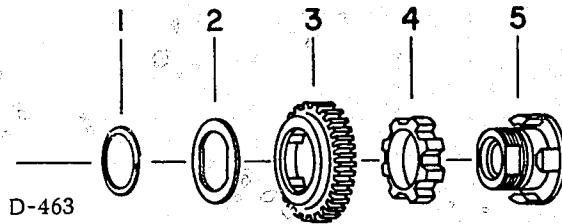

FIGURE 4
A friction clutch is built into the drive gear. This clutch is designed to dampen out torsional vibrations in the pump camshaft and drive, for the protection of the governor components. The clutch also permits the drive gear to slip on its hub momentarily during sudden acceleration or deceleration of the engine thus absorbing the inertia shocks created by the rotating masses of the governor. Later type drive gear assemblies incorporate a rubber insert for dampening function (see Fig. 4).
2. The clearance between the drive hub (105) and the drive gear (103) must be checked. With ample clean lubricating oil between the hub and the drive gear, the latter
should move freely and easily without binding in any position. If necessary, the gear and its hub may be lapped slightly to provide a non-binding assembly. Reassemble in the positions shown in the exploded view (Fig. 4). The drive gear assembly (101 to 105) is mounted on the extending camshaft taper. No key is used. With the securing nut (99) firmly tightened, the assembly should be carefully checked.